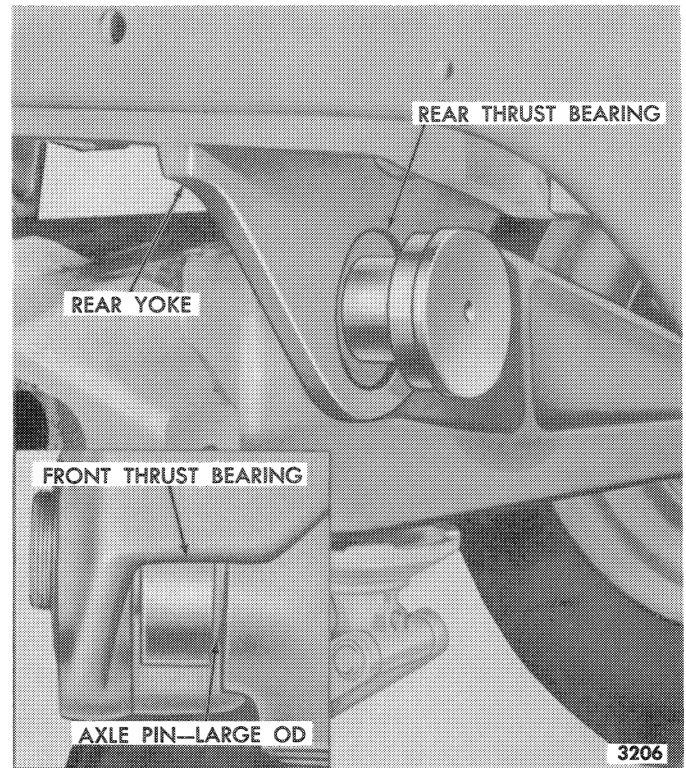

Figure 31—Axle Installation and Thrust Bearing Placement
6. Position the rear thrust bearing in the rear yoke of the support member as shown in Figure 31. This centers the axle pin and makes further installation easier.
8. Continue to slide the pin forward until the large O.D. of the pin protrudes from the axle pin bore. Position the thrust bearing on the pin as shown in the insert to Figure 31.